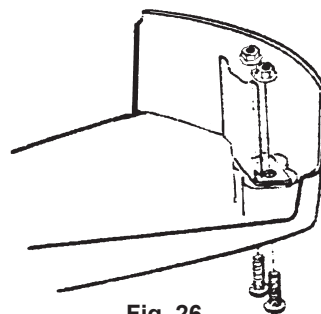

Fig. 26.
1. Remove the cutter (E) from the trimmer guard (F). See fig.26.